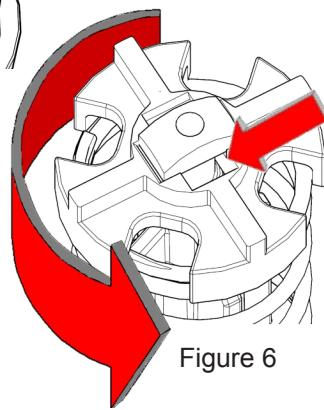

Figure 6
2. Push the bypass valve retainer down over the locking tab on the bypass valve. Push the retainer down (compressing the spring) until it is completely below the locking tab (Figure 6).